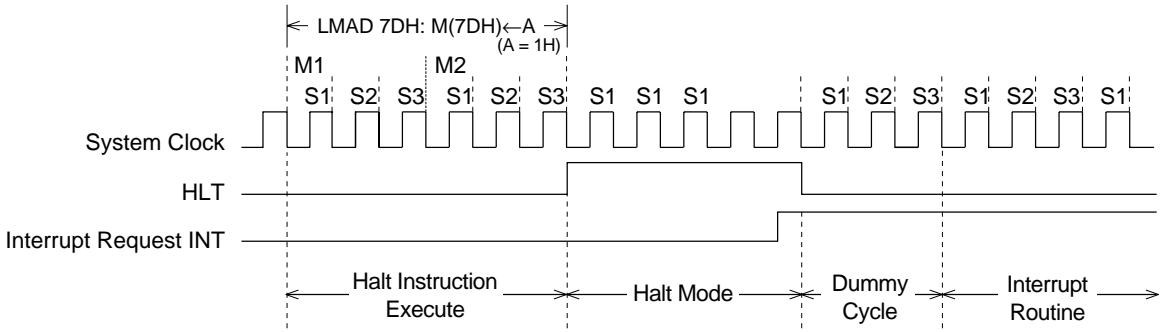

Figure 3-4 Timing of Halt Mode Set and Halt Mode Reset by Interrupt (when the MI flag = 1)
Figure 3-4 shows the timing to enter halt mode and the release timing of halt mode by an interrupt.
Instruction execution after the release differs depending on the status of the master interrupt enable flag (MI). If the MI flag is "1", instruction execution restarts from the interrupt processing routine after one dummy cycle, as shown in Figure 3-4. If the MI flag is "0", instruction execution restarts from the next address of the halt instruction without a dummy cycle.